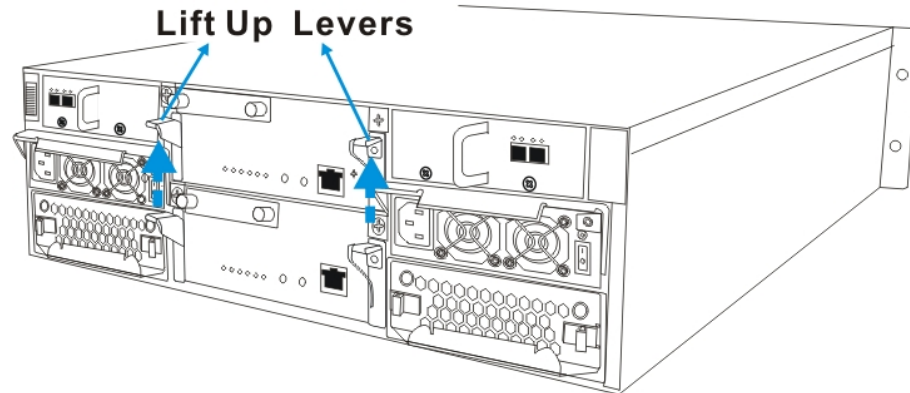

Fig. 2.5 Lifting the Controller Module Latches Upward
3. Reposition the controller module. Once fully inserted, lift up the levers at the back of the controller module. This will set the controller module in the correct position. (See Figure 2.5)